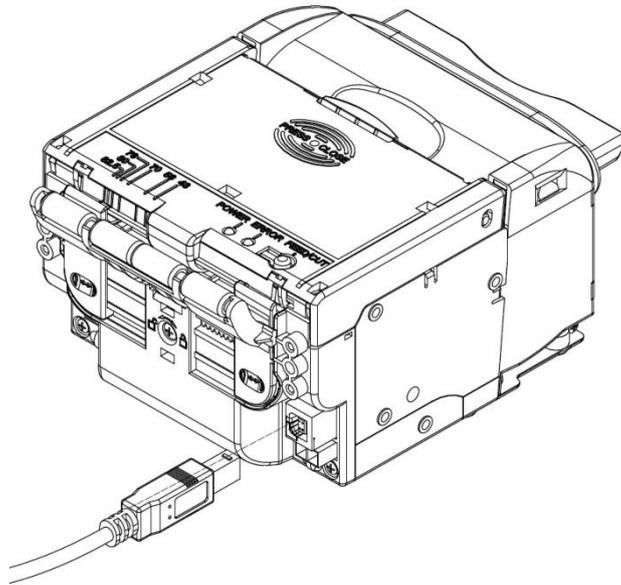

Fig. 4.5-1 Connect USB cable
- 2) Insert the USB cable into corresponding socket (only for printer configured with USB interface) as shown in the Fig. 4.5-1;